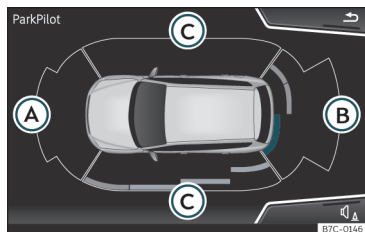

Fig. 232 Represented area.
In order to view the entire periphery of the vehicle, the vehicle must be moved a few metres forwards or backwards. Thus, the missing areas are screened and obstacles at the sides of the vehicle are displayed >>> Fig. 232 Ⓒ.
If there is a fault in a sensor, the symbol  is displayed on the Easy Connect display in front of/behind the vehicle. If a rear sensor is faulty, only the obstacles in area (A) are displayed >>> **Fig. 232**. If a front sensor is faulty, only the obstacles in area (B) are displayed.